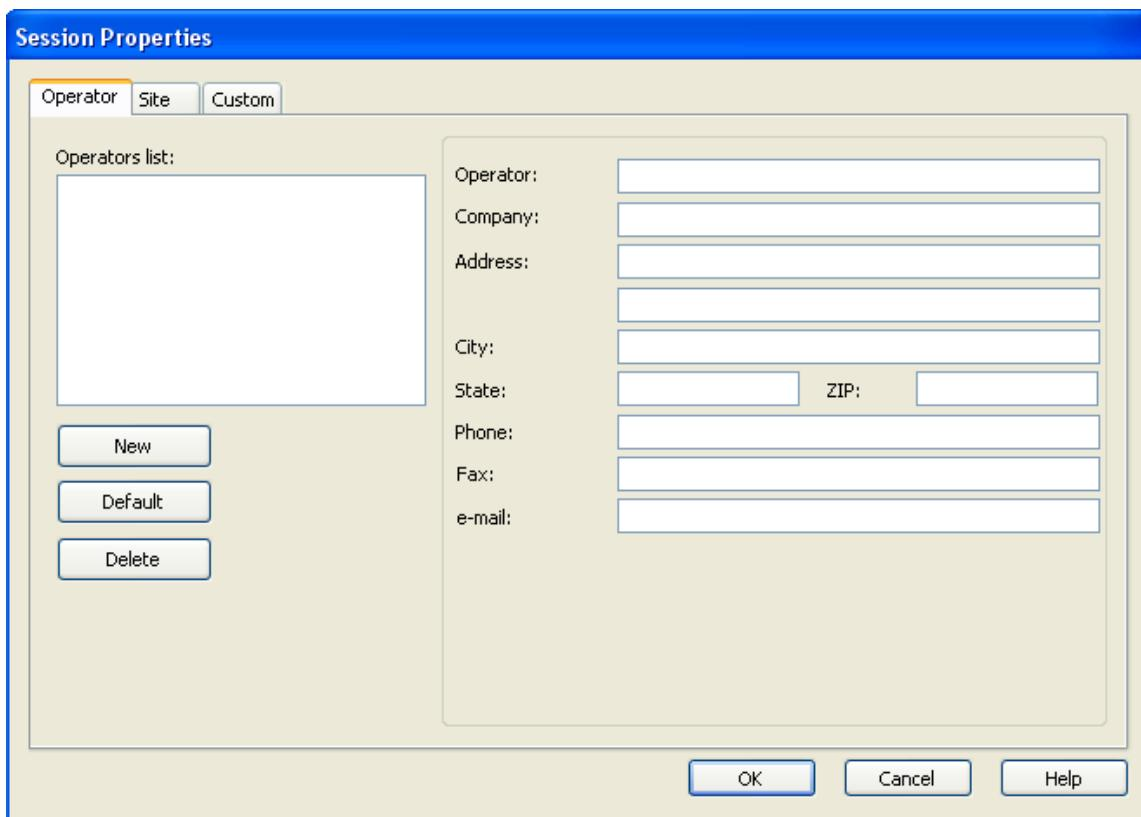

Figure 2-8
- 2) the creation of the database is accompanied by a window requesting information (figure 2-8) concerning the session (Operator, Site, Custom). This information remains linked to the session and will be used for the automatic writing of reports.